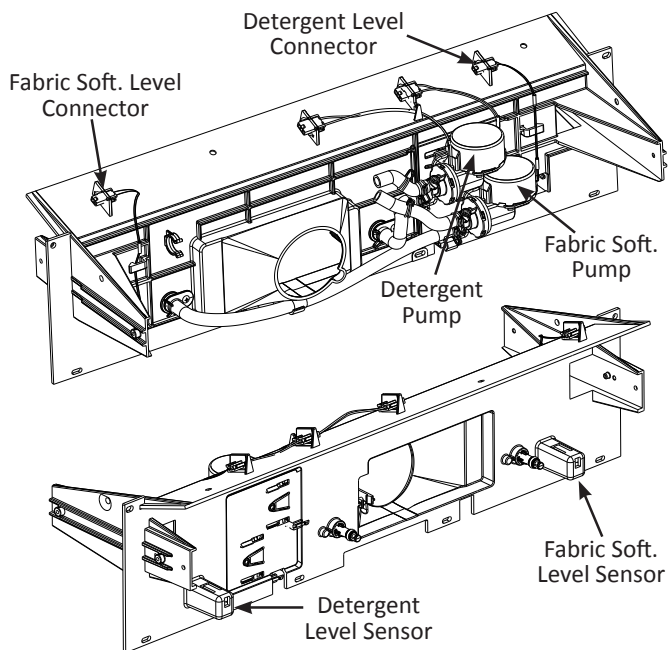

Figure 1 - Drawer Bulk Dispenser Components
7. While watching the ohmmeter, place a magnet above the appropriate sensor cavity (see Figure 1). The magnet should close the sensor (less than 3 ohms).